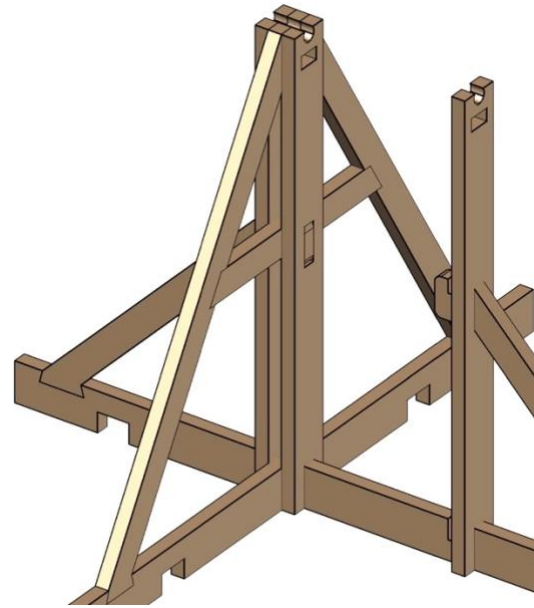

Fig. 14
- *Fig. 14* shows the completed process.